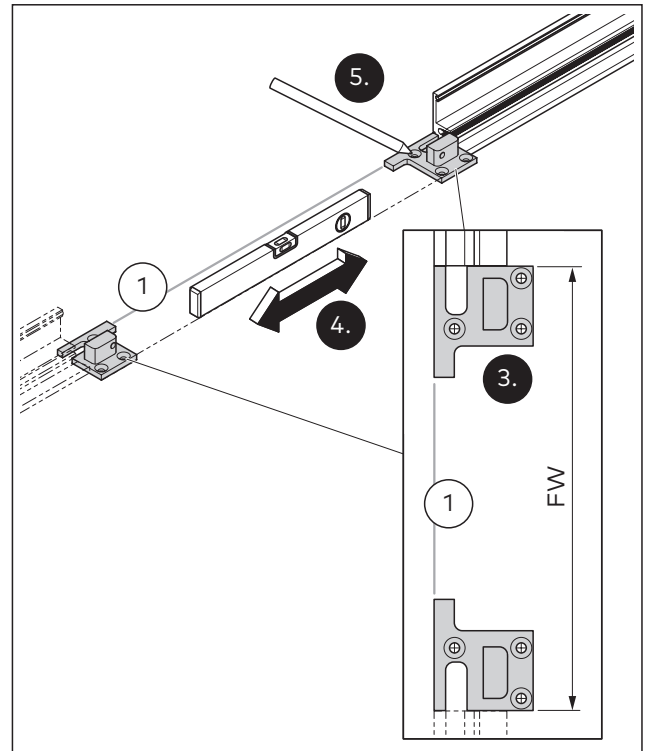

Fig. 20 Align the door frame positioners
3. Align the door frame positioners according to the door frame width (FW) and flush with the unit's alignment on both sides of the passage opening (Fig. 20).